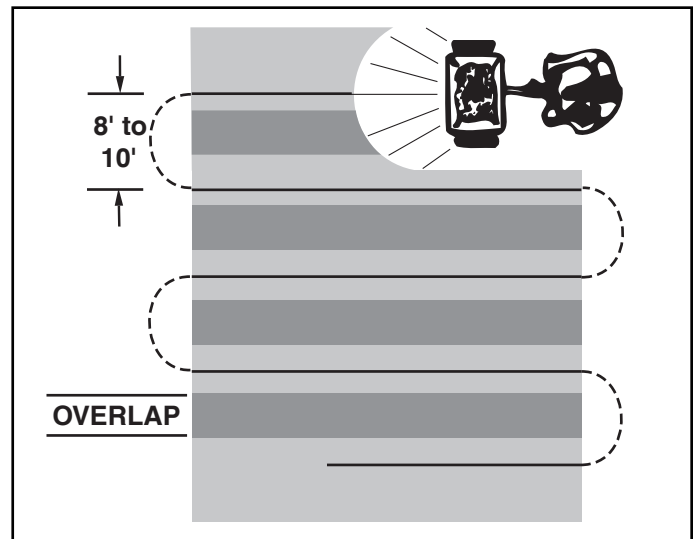

FIGURE 12
8. To insure uniform coverage, make each pass so that the broadcast pattern slightly overlaps the pattern from the previous pass as shown in figure 12. The approximate broadcast widths for different materials are shown in the application chart on this page.